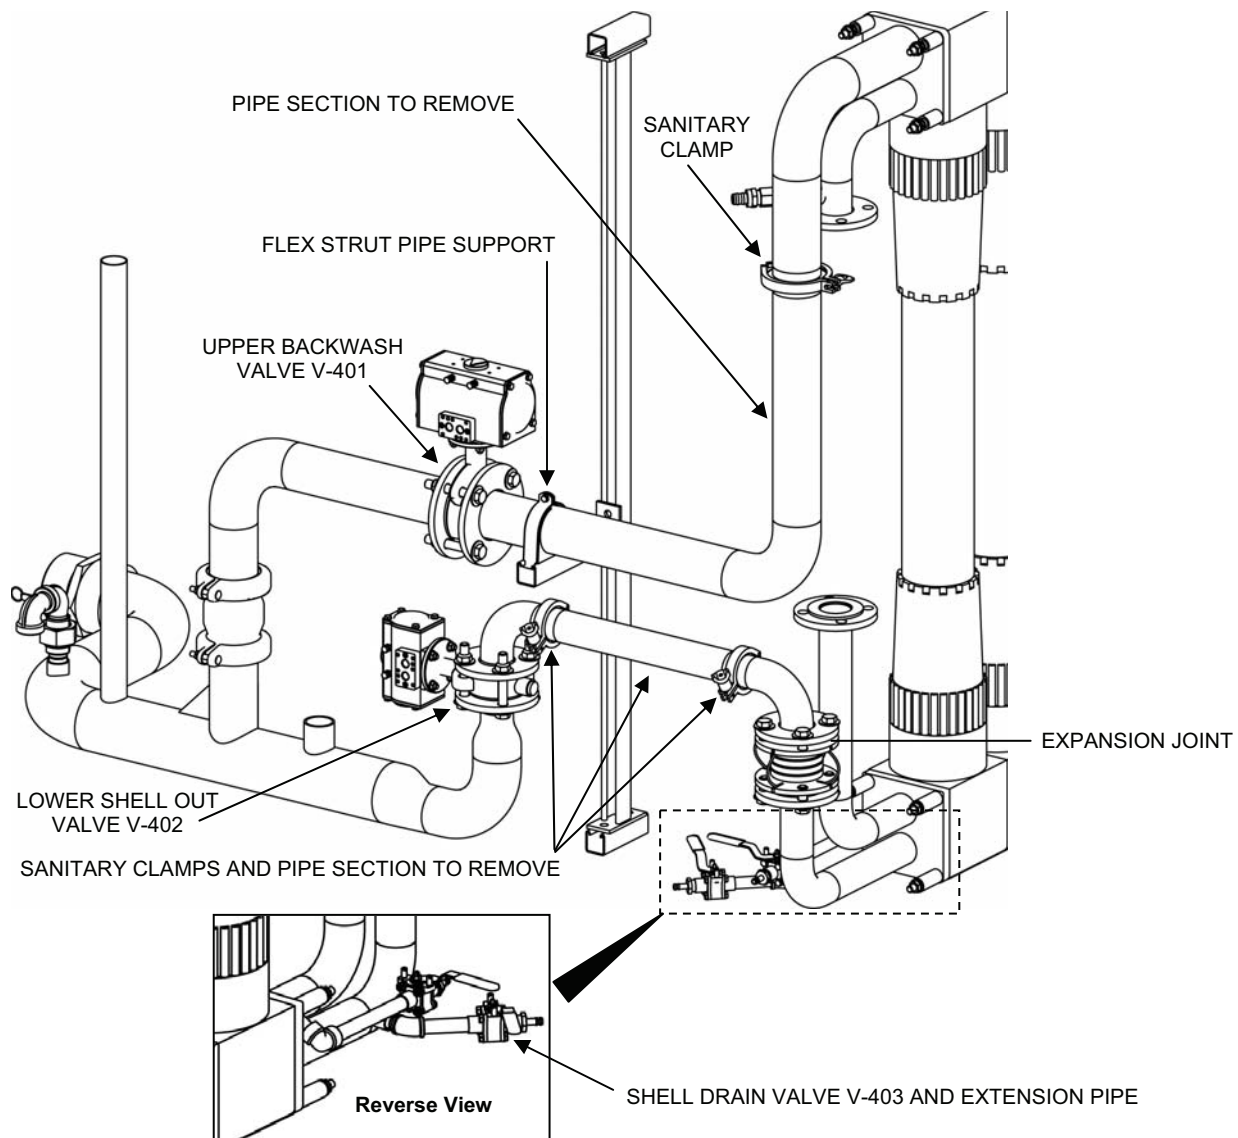

Figure 2. MF Backwash Component Removal from the MF Assembly.
2. Remove the following MF backwash components from the MF assembly (see Figure 2):